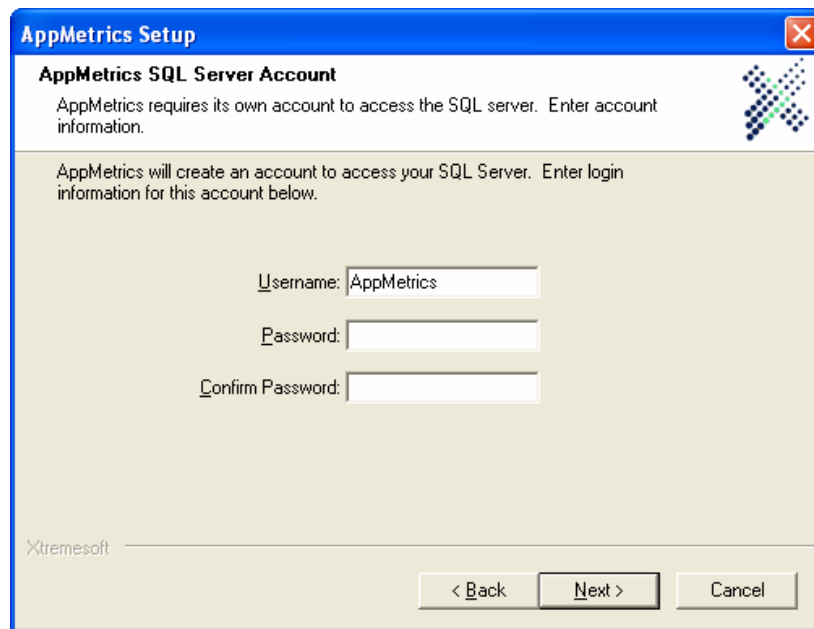

Figure 18
12. If your SQL Server Administrator information is valid, you will then be prompted to provide a password for the AppMetrics account in SQL Server. Leave this field blank (see Figure 18).